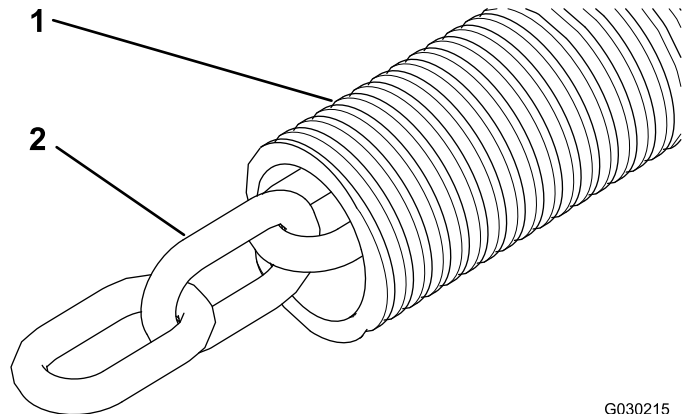

Figura 4
1. Deslize as mangas das correntes sobre as correntes (Figura 4).